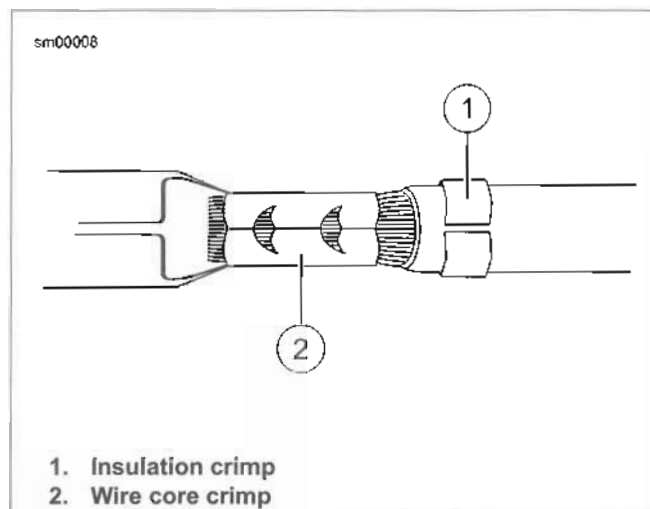

Figure A-66. Tyco 070 Multilock Unsealed Connector:
See Figure A-66. Inspect the wire core crimp (2) and insulation crimp (1). Distortion should be minimal.